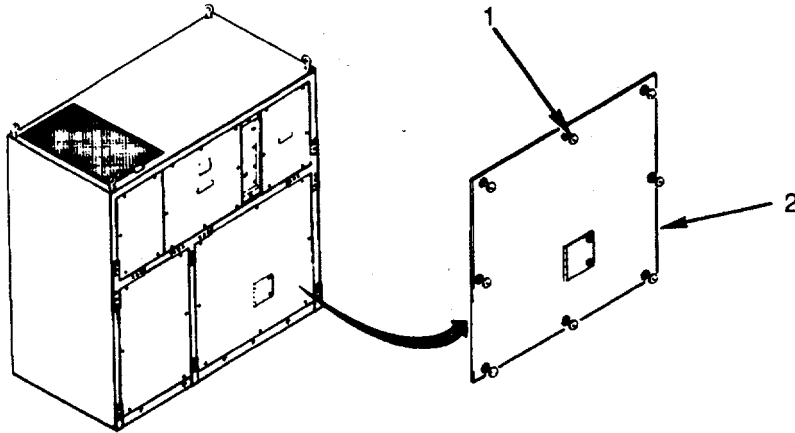

Figure 4-6. Right Front Condenser Panel Removal
- d. Remove Right Front Condenser Panel. Loosen eight captive fasteners (1) and remove panel (2) (see Figure 4-6).